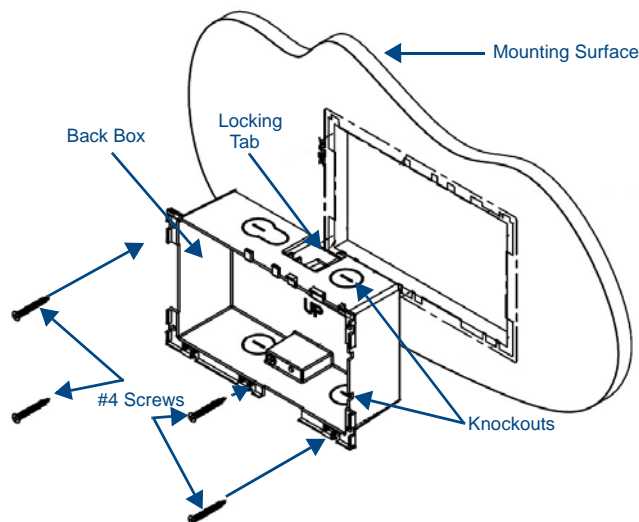

FIG. 4 MXD-701 Back Box Installation (Landscape)
The back box (FIG. 4) is designed to attach the panel to most standard wall and solid surface materials. This back box has two locking tabs (one on top and one on bottom) to help lock the back box to the wall. These locking tabs are only extended AFTER the back box is inserted into the wall. Using the locking tabs is highly recommended for standard mounting surfaces such as walls. For thin walls and solid surfaces, use #4 mounting screws (not included).
2. Remove the back box knockouts (FIG. 4) and thread the incoming wiring through the knockout holes. To facilitate installation, thread the Ethernet cable through a bottom knockout (Landscape) or a right-side knockout (Portrait), and the USB cable through a top knockout (Landscape) or left knockout (Portrait).